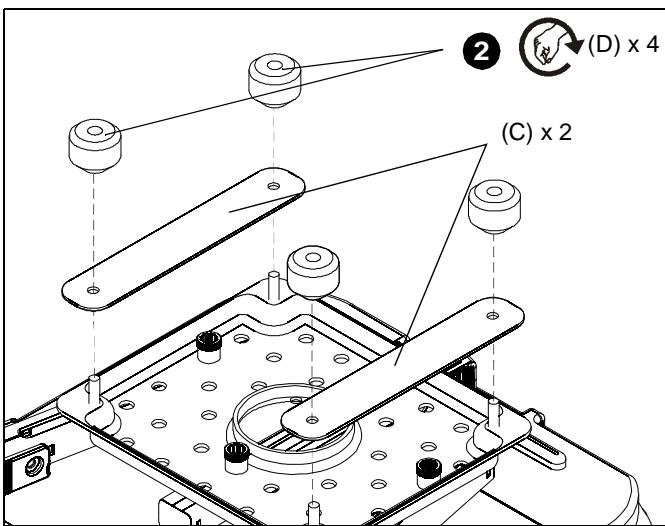

Figure 10
- Install security brackets (C) over screws on SLBU main plate. (See Figure 10)
- Partially install thumb nuts (D) onto SLBU main plate screws. (See Figure 10)